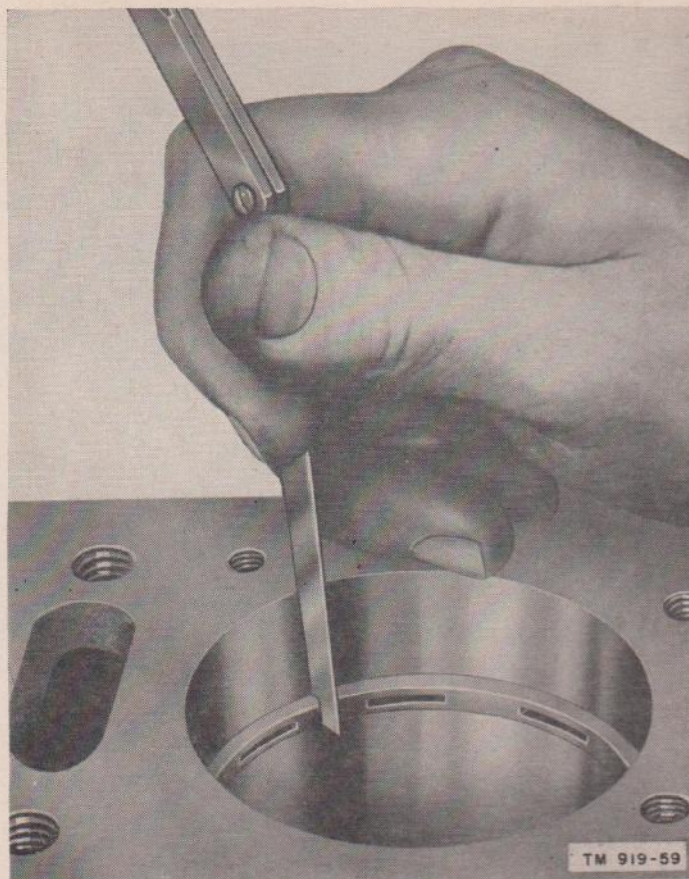

Figure 60. Measuring piston ring gap.
- (1) Check the piston clearance as instructed in paragraph 58g(16).
- (2) Check the piston ring gap as follows: Push the ring into the cylinder with a piston. Check the end gap with a feeler gage as shown in figure 60. The end gap should be .008 inch to .013 inch. Check each piston ring individually.
- (3) Check the piston ring groove clearance. Groove clearance of the upper compression ring should be .002 inch to .004 inch; that of the lower compression ring should be .0015 inch to .0035 inch. Clearance of the oil regulating ring should be .001 inch to .0025 inch.
- (4) Clamp the connecting rod in a vise; use vise jaw shields of soft metal or hardwood. Start the piston pin into the piston with the lockscrew groove